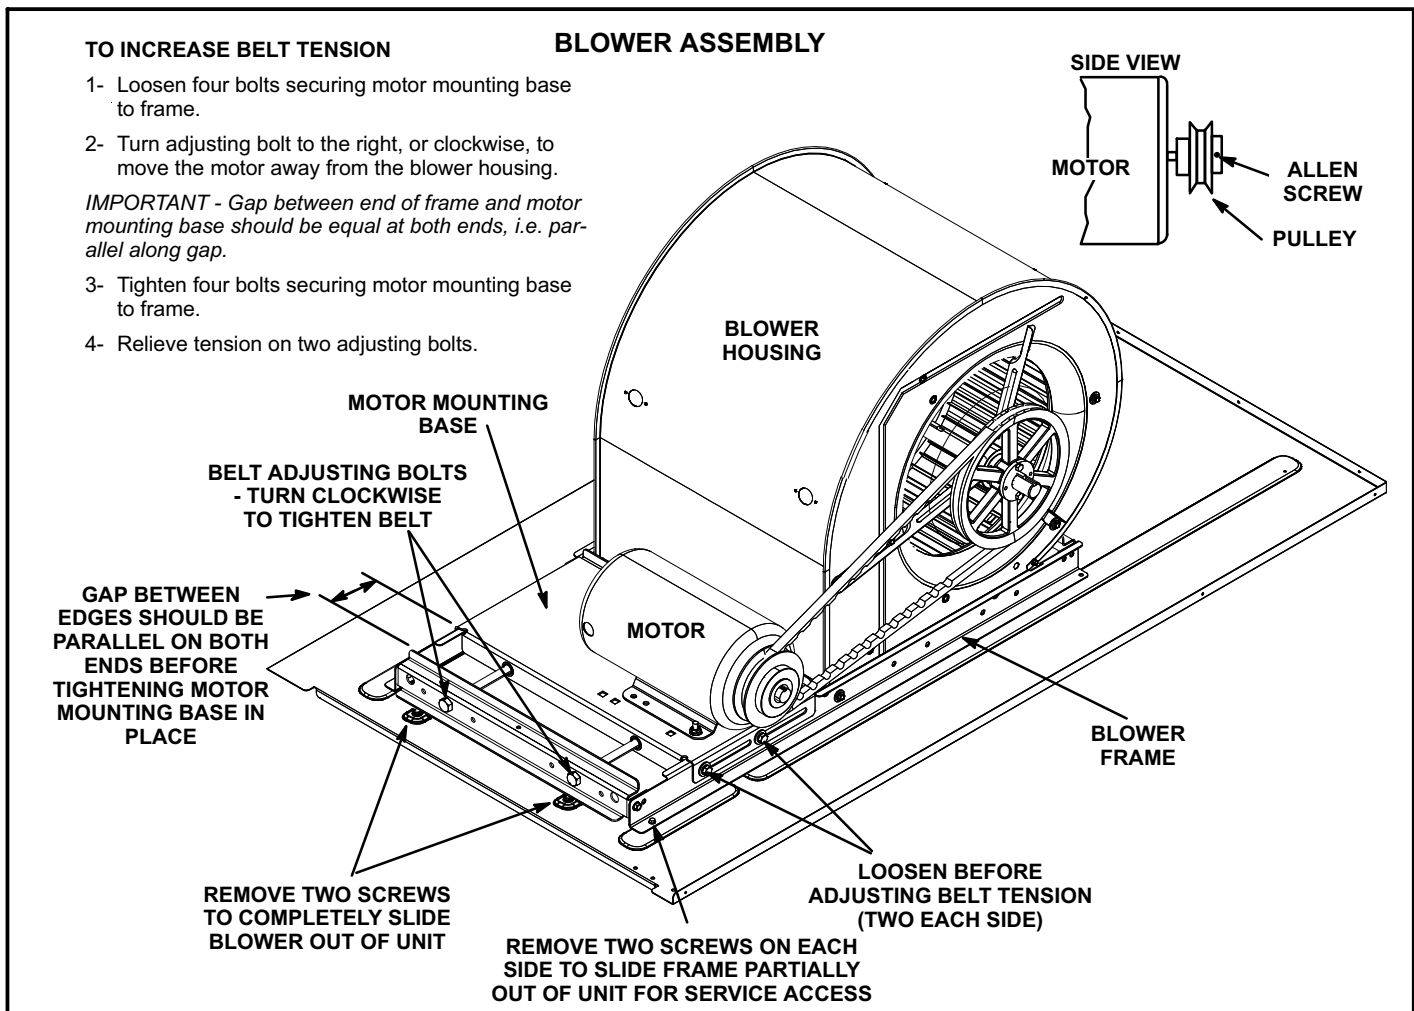

FIGURE 7
The blower compartment in all KGA092/150S units is located between the evaporator coil and the condenser coil section. The blower assembly is accessed by disconnecting the blower motor. See *Blower Access* in the Operation/ Adjustment section. The blower pulls out as shown in figure 7.
- 4- The blower RPM can be adjusted at the motor pulley. Loosen Allen screw and turn adjustable pulley clockwise to increase CFM. Turn counterclockwise to decrease CFM. See figure 7. Do not exceed minimum and maximum number of pulley turns as shown in table 1.
- 1- Loosen four bolts securing motor base to mounting frame. See figure 7.